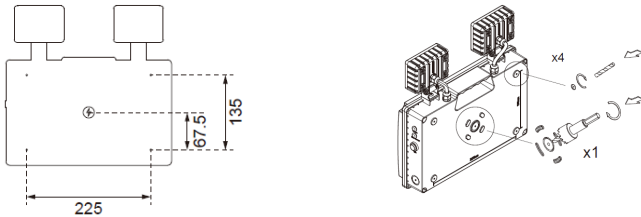

Figure 1: ECOFLOOD LED weatherproof mounting hole details and mains cable entry
1. Determine the mounting height and position, allow at least 100mm of clearance space on either side of the enclosure to ensure adequate operation space for the LED/push-button when the fitting is installed. Open the front cover 4 screws, using suitable size screwdriver. For mounting holes and mains cable entry position, see figure 1 below for more details.